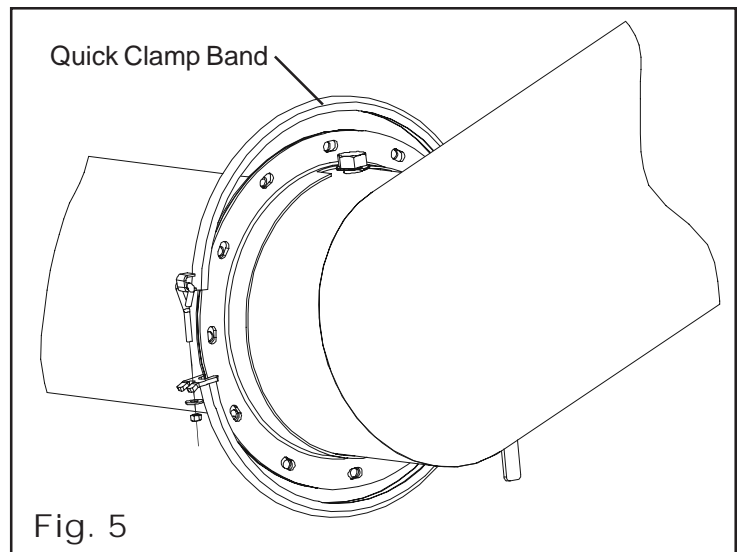

Fig. 5
- B. Once the 25° Unloader assembly is positioned with its angle ring mated against the Adapter Plate, use the Quick Clamp Band to secure assembly to bin. (See Figure 5)